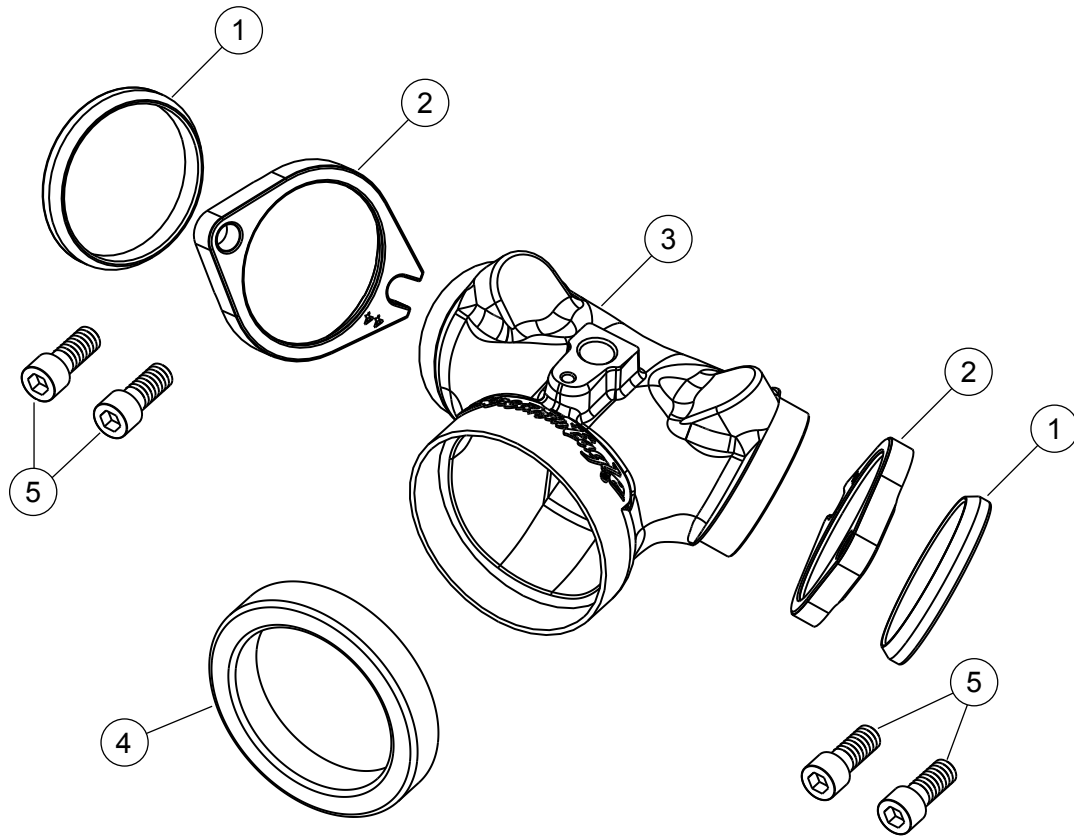

Figure 3. Service Parts: Performance Intake Manifold
See Figure 3 and Table 1.
6. See Figure 3 and Table 1. Position the manifold assembly to the intake ports of the cylinder heads. Install the socket head screws (5). Do not tighten at this time.